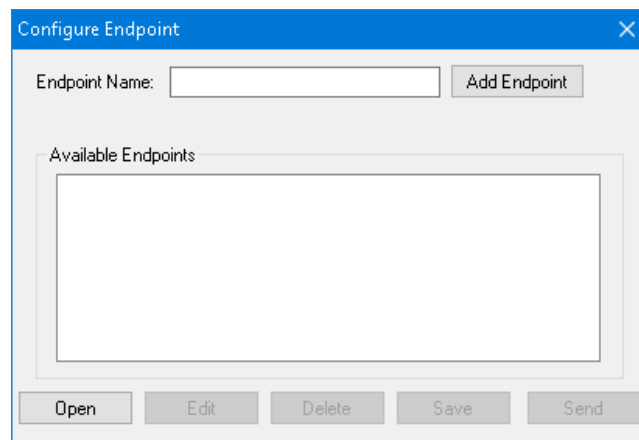

Figure 3-18 IPsec Configure Endpoint Screen
3. To configure IPsec, select **IPSEC Configuration/Configure Endpoint**. IPScom will display the "Configure Endpoint" (Figure 3-18) screen which allows the user to add, edit, delete, or save IPsec Endpoints.